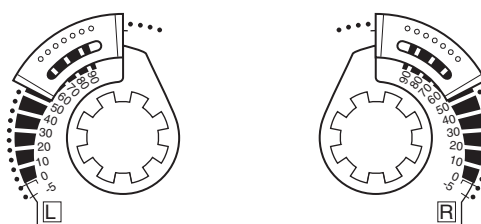

Figure-8 Positioning the Rotation Limiter.
3. Place the AM-689 rotation limiter on the actuator so that it either makes contact with, or is as close as possible to, the edge of the indicator. See Figure-8.